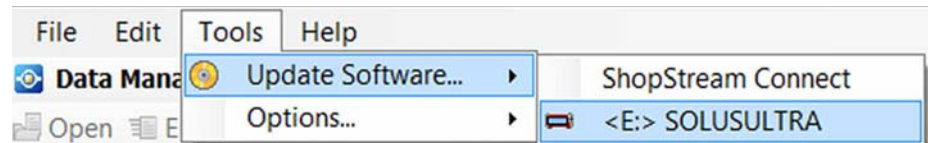

Figure 9-3
1. Select **Tools > Update Software > (diagnostic tool type - e.g. MODIS, SOLUS PRO, Vantage Ultra etc.)** from the Menu bar (Figure 9-3).